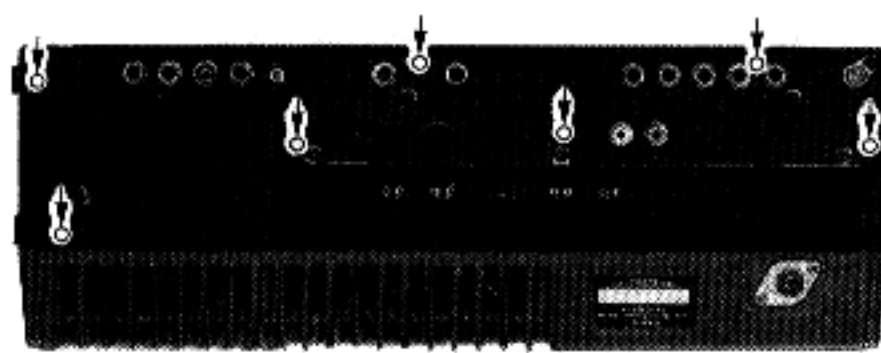

Figure 4
- 5) Referring to Figure 4, remove the seven black painted screws from the rear panel. Then remove the (black) outer rear panel.